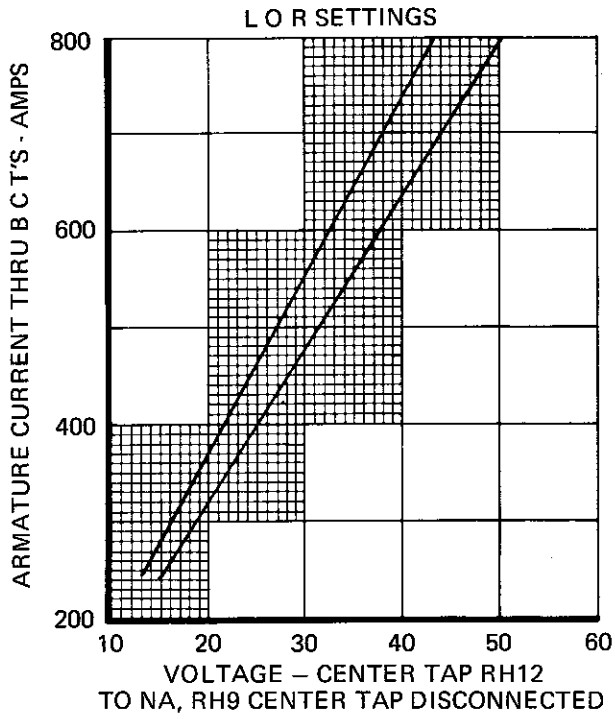

Fig. 3
7. LOR Setting — Obtain 500 amps through BCT's and adjust RH12 to 29 ± 2 volts. Use LOR settings on Fig. 3 as reference. Return throttle to idle when completed.